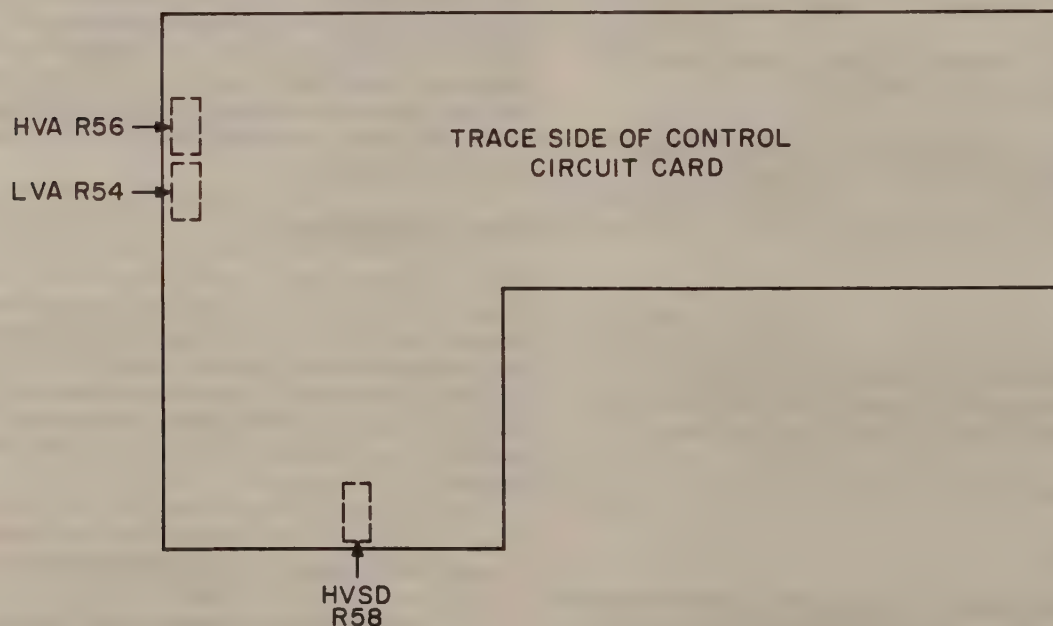

Figure 4-1
4.07 The low voltage alarm adjustment potentiometer R54, located on the control card A4, sets the value at which the LVA (Low Voltage Alarm) LED illuminates to indicate a low voltage condition on the output of the rectifier. Note the RFA rectifier fail alarm LED also illuminates. Unless otherwise specified the low voltage alarm has been factory adjusted to 47.1 VDC. Refer to Figure 4-1 for detailed location of LVA potentiometer R54.
4.08 The high voltage alarm adjustment potentiometer R56, located on control card A4, sets the value at which the HVA High Voltage Alarm LED illuminates to indicate a High Voltage condition at the output of the rectifier. Refer to Figure 4-1 for detailed location of the HVA potentiometer R56.
To adjust this limit, observe the following procedure. Refer to Figure 4-1 for detailed location of the HVSD potentiometer R58.